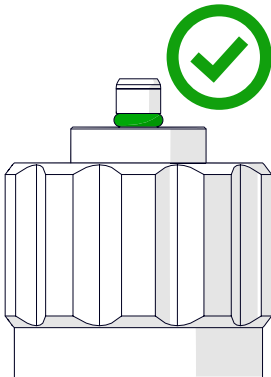

Fig. 55 - Correct traction setup
3. When the traction is correctly setup, any amount of the green indicator will be visible (Fig. 55).